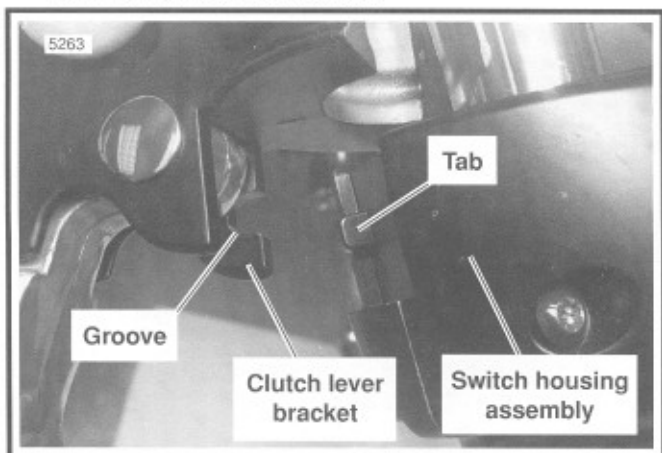
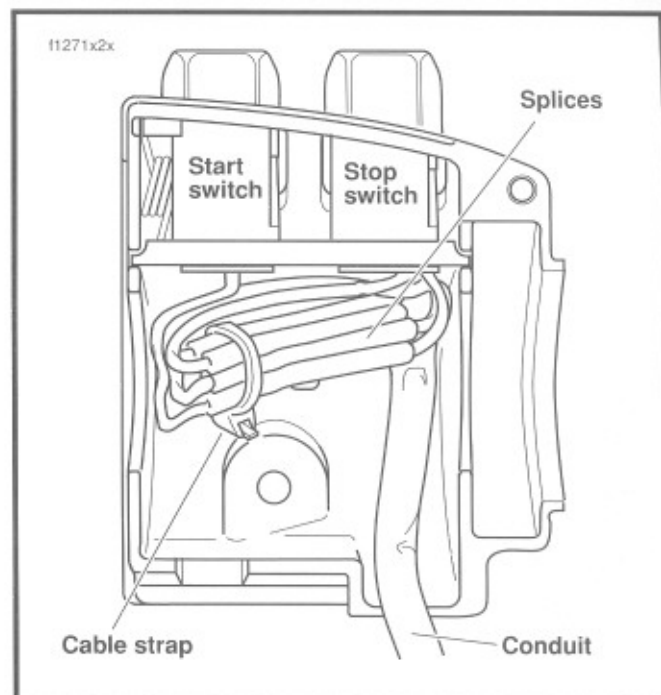

Figure 7-76. Fit Clutch Lever Bracket to Left Handlebar Switch Housings
Figure 7-78. Upper Right Handlebar Switch Housing (With Splices)
- See Figure 7-76. Position the clutch hand lever assembly inboard of the switch housing assembly, engaging the tab on the lower switch housing in the groove at the bottom of the clutch lever bracket.
See Figure 7-76. Do not remove the switch housing assembly without first placing a 5/32 inch cardboard insert between the brake lever and lever bracket. Removing the assembly without the insert in place may result in damage to the rubber boot and plunger of the front stop-light switch.
6. Loop switch wires so that spliced lengths are positioned as shown in Figure 7-78. Route wires downstream of splices beneath wing on engine stop switch side of bracket as seen in Figure 7-76.